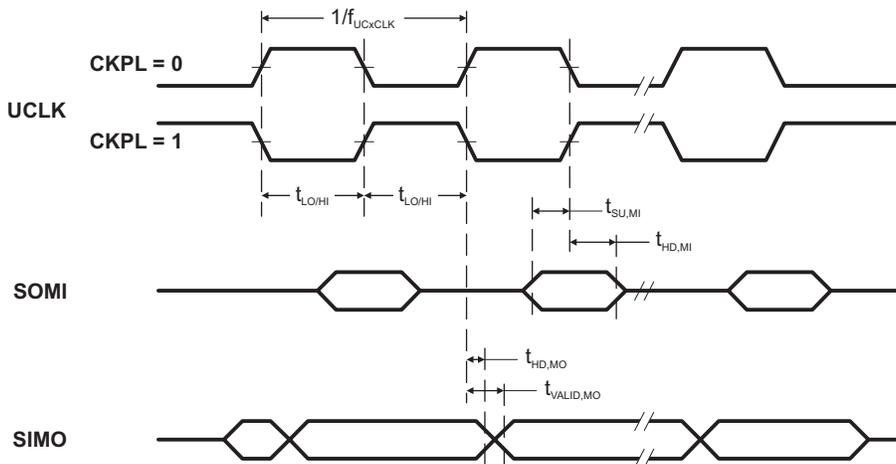
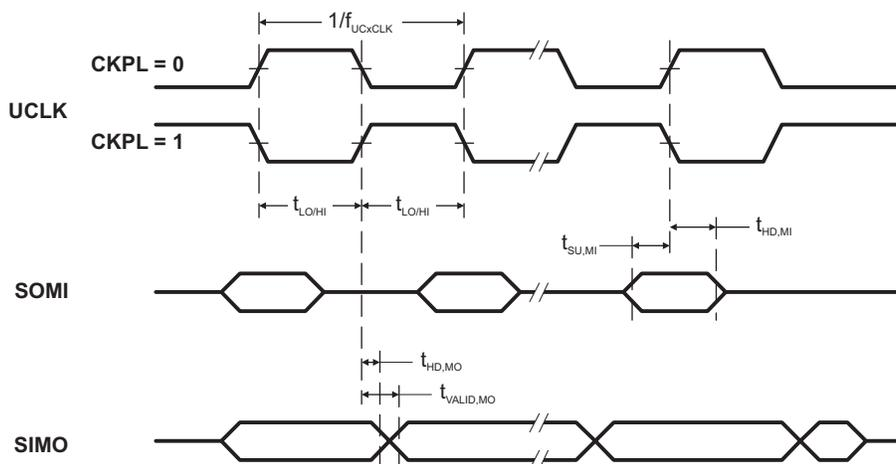

Figure 11. SPI Master Mode, CKPH = 0
Figure 12. SPI Master Mode, CKPH = 1
(see Note ⁽¹⁾, Figure 11 and Figure 12)
- (1) f_{UCxCLK} = 1/2t_{LO/HI} with t_{LO/HI} ≥ max(t_{VALID,MO}(USCI) + t_{SU,SI}(Slave), t_{SU,MI}(USCI) + t_{VALID,SO}(Slave)). For the slave's parameters t_{SU,SI}(Slave) and t_{VALID,SO}(Slave) refer to the SPI parameters of the attached slave.
- (2) Specifies the time to drive the next valid data to the SIMO output after the output changing UCLK clock edge. Refer to the timing diagrams in Figure 11 and Figure 12.
- (3) Specifies how long data on the SIMO output is valid after the output changing UCLK clock edge. Negative values indicate that the data on the SIMO output can become invalid before the output changing clock edge observed on UCLK. Refer to the timing diagrams in Figure 11 and Figure 12.
(2) Specifies the time to drive the next valid data to the SOMI output after the output changing UCLK clock edge. Refer to the timing diagrams in Figure 11 and Figure 12.
(3) Specifies how long data on the SOMI output is valid after the output changing UCLK clock edge. Refer to the timing diagrams in Figure 11 and Figure 12.